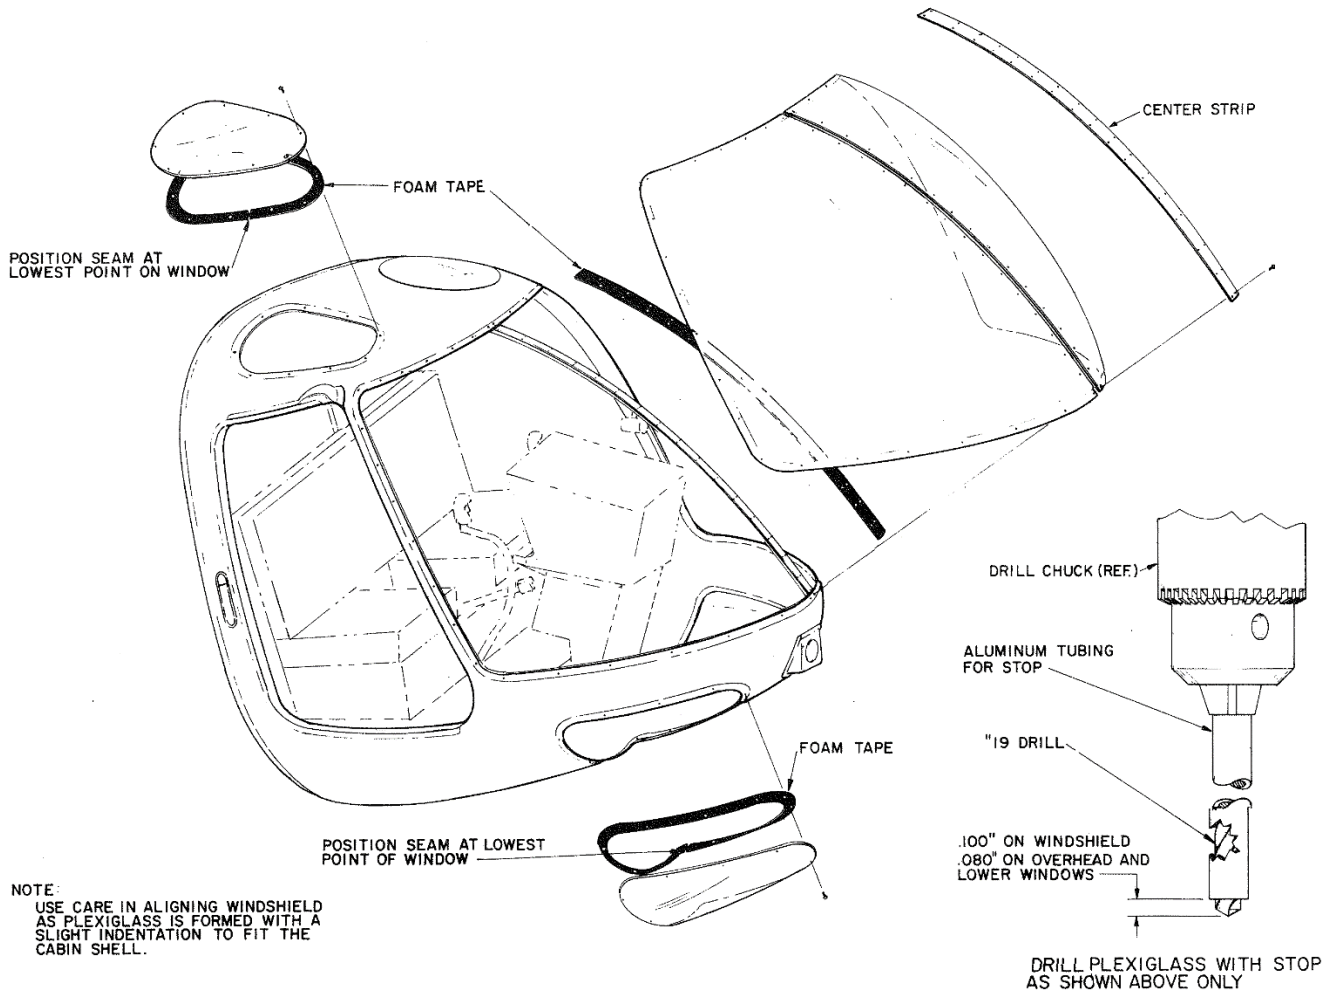

Figure 8-3. 280F Series Windshield
E. Windshield Removal (280F Series) (See Figure 8-3)
F. Windshield Installation (280F Series) (See Figure 8-3)
14. Drill through all existing rivet holes in plexiglass with a modified #19 drill. See Figure 8-3 for drill modification.
10. Drill through all rivet holes in plexiglass with a modified #19 drill. See Figure 8-3 for drill modifications.